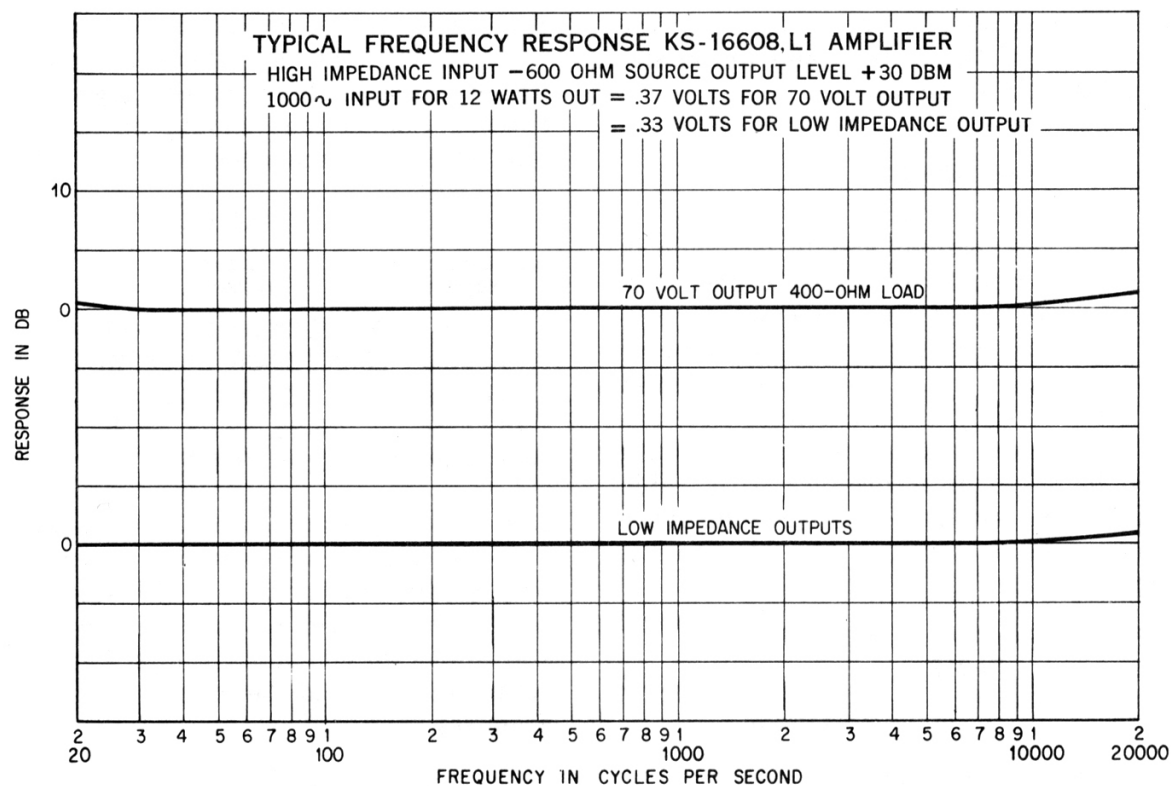

Fig. 4 – Frequency Response — High Impedance Input
**6.01** Fig. 4 shows the frequency response of the KS-16608, L1 Amplifier. The response of the low impedance outputs is combined into one curve since they are almost identical.